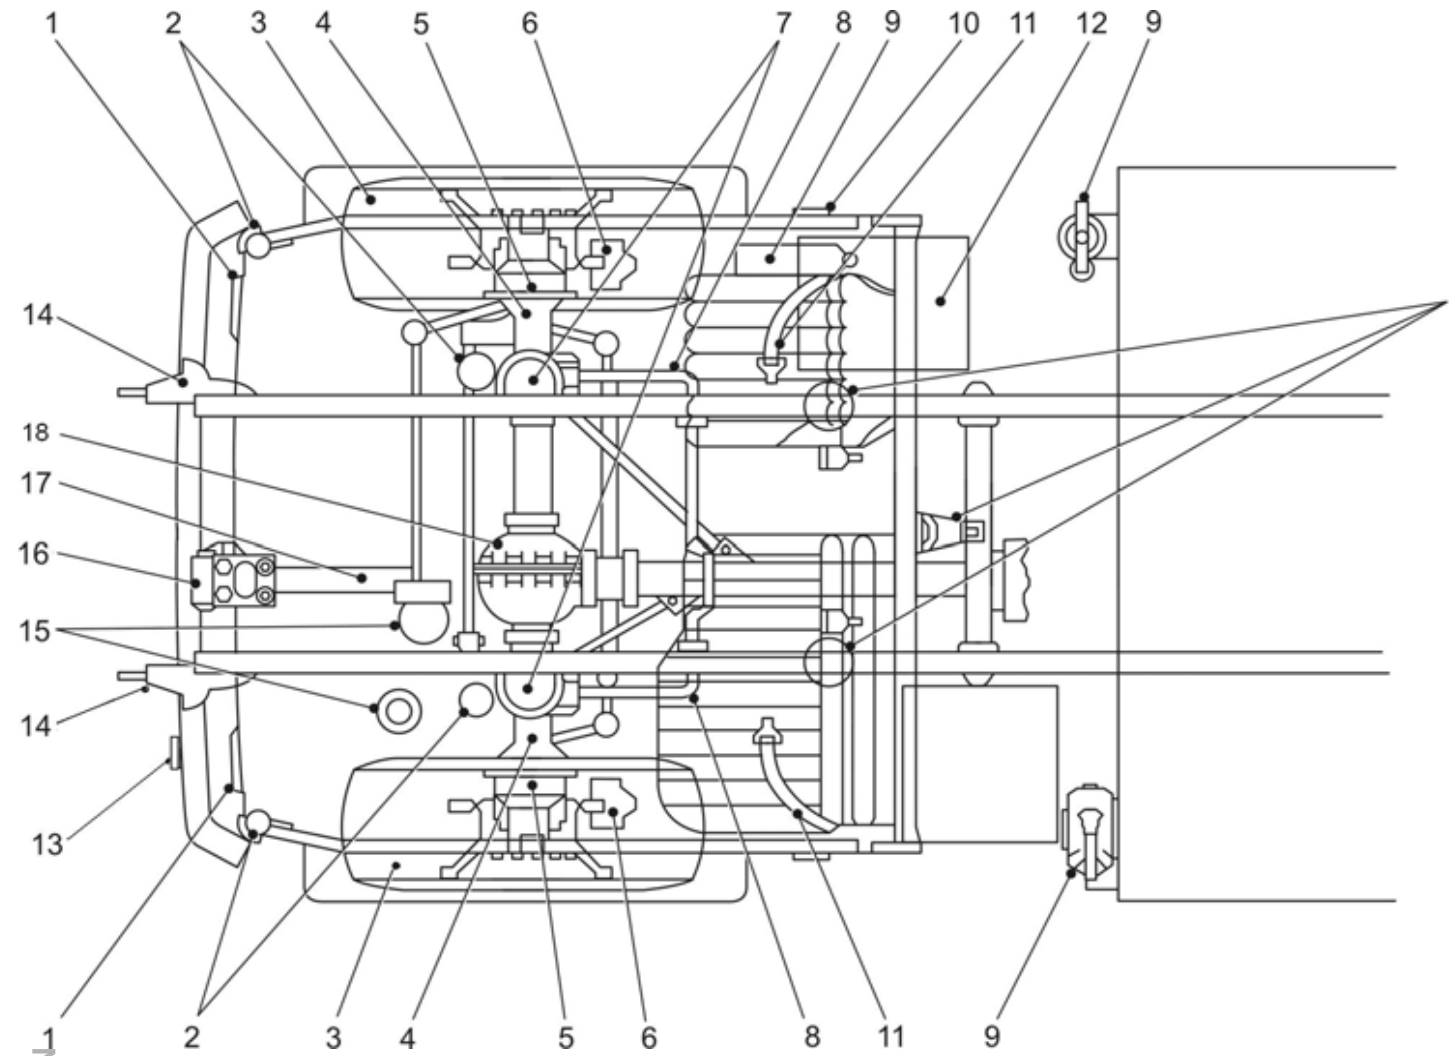

Figure 2 Driveline/Cab/Chassis – Front
- 1 Table 6, Servicing Requirements for Driveline/Cab/Chassis – Front, refers to Figure 2, Driveline/Cab/Chassis – Front.